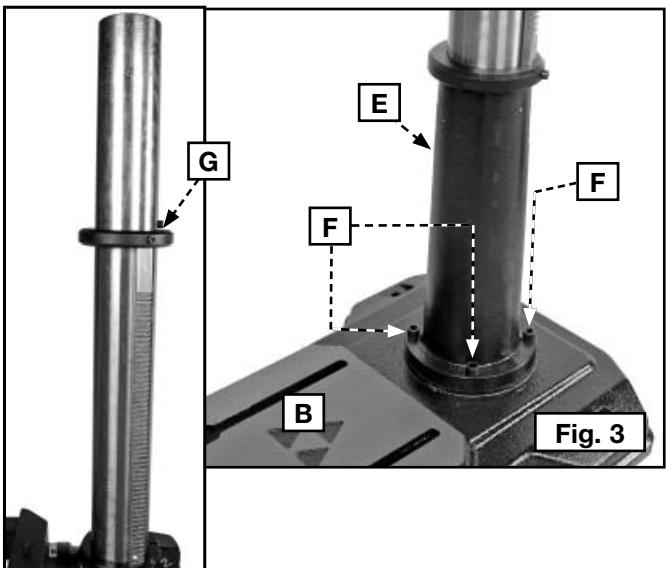

Fig. 3
1. Attach the column (E) Fig. 3 to the base (B) using the four M10 x 40 mm socket head cap screws (F), three of which are shown.
**NOTE:** Make sure screw (G) (Fig. 3 inset) is oriented to the back of the drill press.